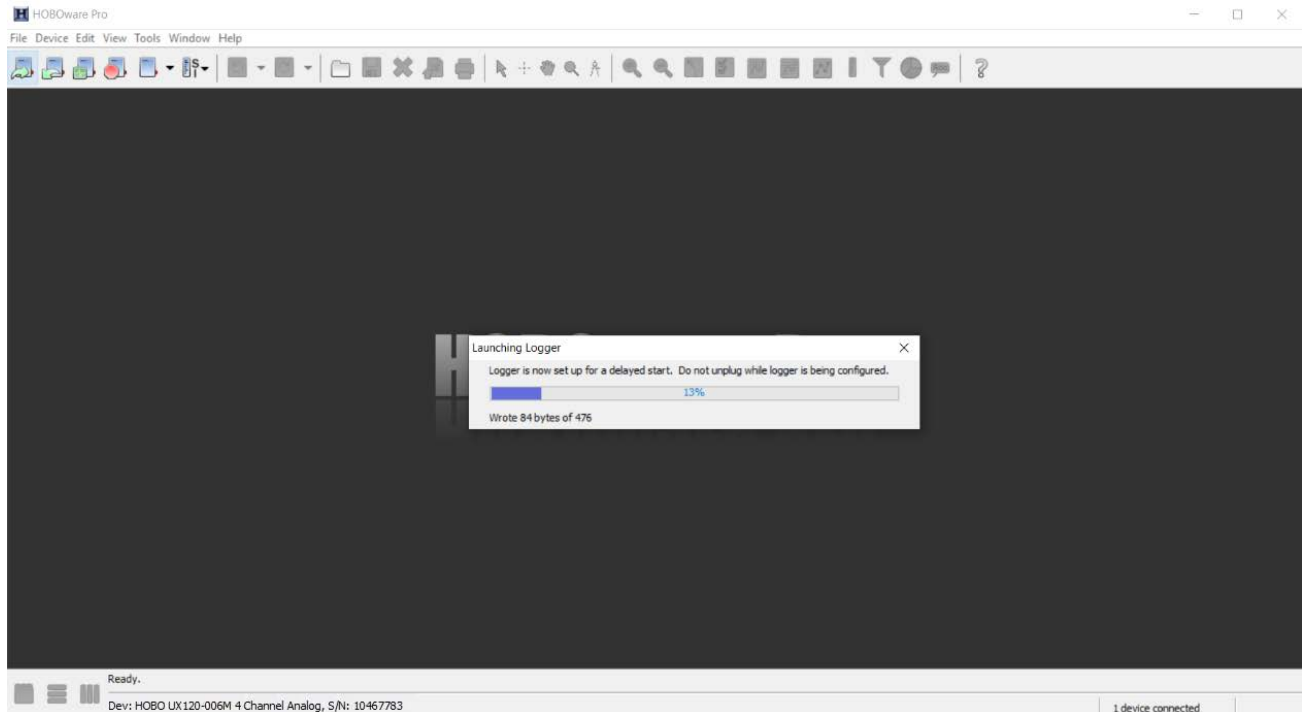

Figure A.9.9: Launching the logger using the HOBOWare software.
11. Click “Delayed Start” to complete the configuration process. Do not unplug the logger from the computer until deployment is complete (Figure A.9.9).